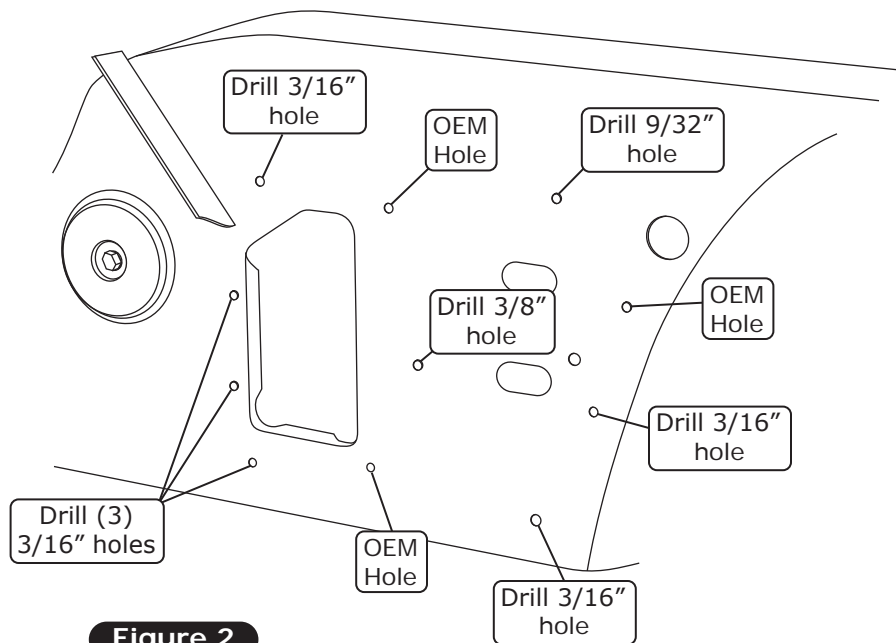

Figure 2
6. Drill the holes as shown in Figure 2, below.